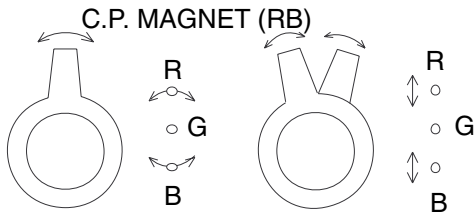

Fig. 7
2. Loosen the Ring Lock and align red with blue dots or Crosshatch at the center of the screen by rotating (RB) C.P. Magnets. (See Fig. 7)